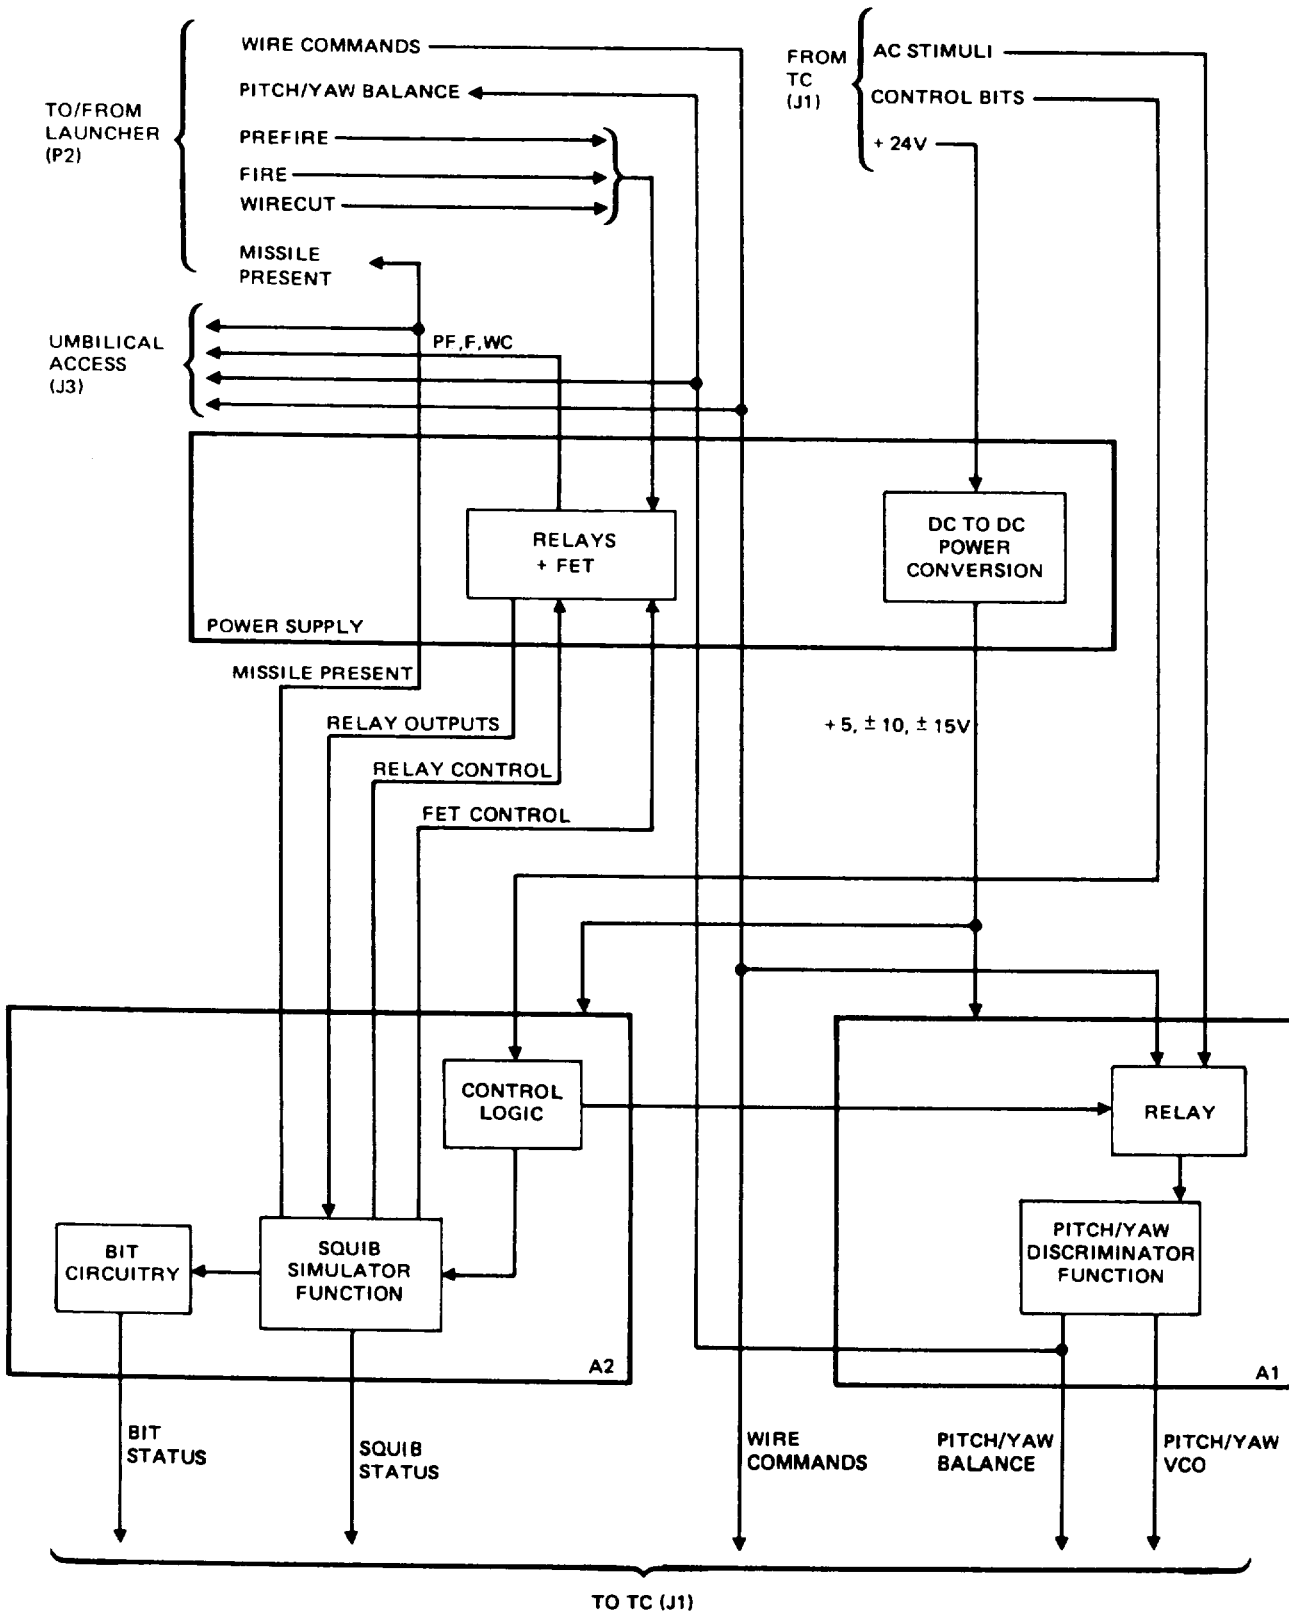

Figure 1-12. Missile Simulator Block Diagram.
*b. Missile Simulator* The MS, under control of the TC, simulates the TOW missile squib and pitch and yaw discriminator functions. It also reports squib and BIT status to the TC. MS circuitry is contained on two PCB assemblies: A1 providing timing and demodulation functions, and A2 providing control, squib simulator, and BIT functions. Power for the MS is provided by a DC-to-DC power supply that receives +24 volts from the TC. A block diagram of the MS is provided in figure 1-12.